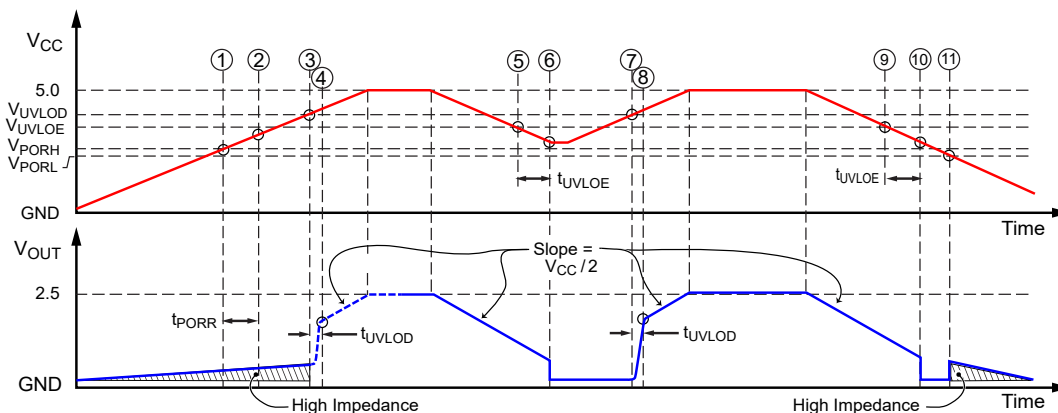
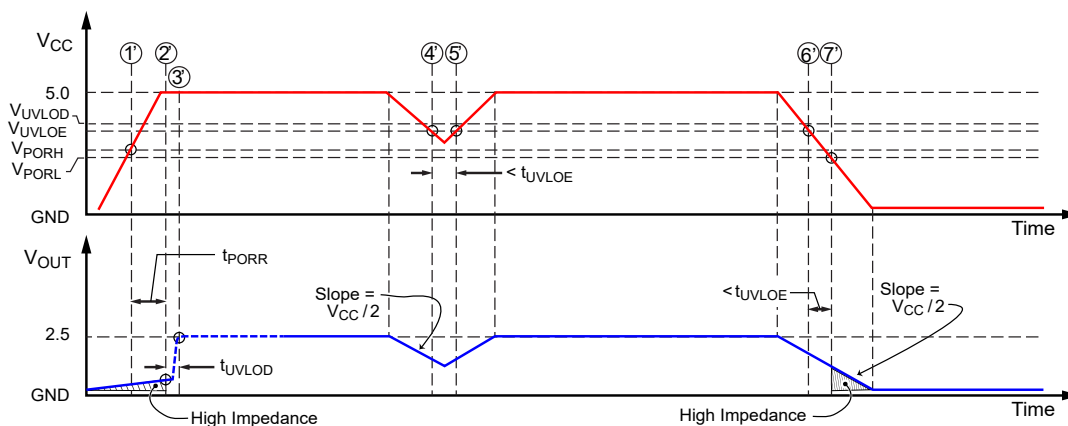

Figure 10: POR and UVLO Operation – Slow Rise Time Case – 5 V Mode
Figure 11: POR and UVLO Operation – Fast Rise Time Case – 5 V Mode
- Power-Up.** At power-up, as  $V_{CC}$  ramps up, the output is in a high-impedance state. When  $V_{CC}$  crosses  $V_{PORH}$  (location [1] in Figure 10 and [1'] in Figure 11), the POR Release counter starts counting for  $t_{PORR}$ . At this point, if  $V_{CC}$  exceeds  $V_{UVLOD}$  [2'], the output will go to  $V_{CC} / 2$  after  $t_{UVLOD}$  [3']. If  $V_{CC}$  does not exceed  $V_{UVLOD}$  [2], the output will stay in the high-impedance state until  $V_{CC}$  reaches  $V_{UVLOD}$  [3] and then will go to  $V_{CC} / 2$  after  $t_{UVLOD}$  [4].